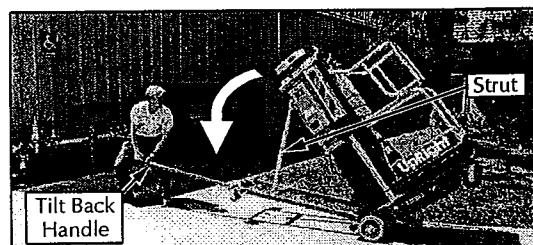

Figure 3-10: Tilting the Machine Back
10. Pull downward on the Tilt Back Handle and lower the machine gently onto the Tilt Back Frame. As the mast tilts backward, the weight of the machine will transfer onto the Tilt Back Frame. Remember to support this weight and **DO NOT** allow the machine to drop onto the Tilt Back Frame (fig. 3-10).